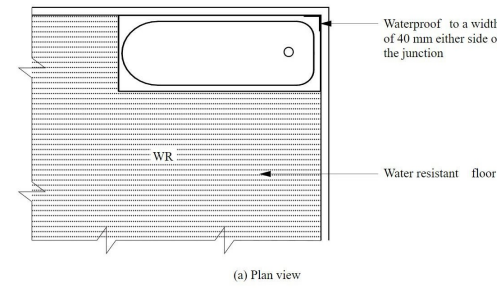

FIGURE 10.2.4B
- (1) FOR AREAS ADJACENT TO ALL BATHS AND SPAS, THE FOLLOWING APPLIES:
- (A) FOR CONCRETE, COMPRESSED FIBRE-CEMENT AND FIBRE CEMENT SHEET FLOORING, THE FLOOR OF THE ROOM MUST BE WATER RESISTANT.
- (B) FOR TIMBER FLOORS INCLUDING PARTICLEBOARD, PLYWOOD AND OTHER TIMBER BASED FLOORING MATERIALS, THE FLOOR OF THE ROOM MUST BE WATERPROOF.
- (C) TAP AND SPOUT PENETRATIONS MUST BE WATERPROOF WHERE THEY OCCUR IN HORIZONTAL SURFACES.
- (2) FOR AREAS ADJACENT TO NON-FREESTANDING BATHS AND SPAS, THE FOLLOWING APPLIES:
- (A) WALLS MUST BE WATER RESISTANT (SEE FIGURE 10.2.4A AND FIGURE 10.2.4B)
- (I) TO A HEIGHT OF NOT LESS THAN 150 mm ABOVE THE VESSEL, FOR THE EXTENT OF THE VESSEL, WHERE THE VESSEL IS WITHIN 75 mm OF A WALL; AND
- (II) FOR ALL EXPOSED SURFACES BELOW VESSEL LIP.
- (B) WALL JUNCTIONS AND JOINTS MUST BE WATER RESISTANT WITHIN 150 mm ABOVE A VESSEL FOR THE EXTENT OF THE VESSEL.
- (C) WALL/FLOOR JUNCTIONS MUST BE WATERPROOF FOR THE EXTENT OF THE VESSEL (SEE FIGURE 10.2.4A AND FIGURE 10.2.4B).
- (3) FOR INSERTED BATHS AND SPAS, THE FOLLOWING APPLIES:
- (A) FOR FLOORS AND HORIZONTAL SURFACES: (I) ANY SHELF AREA ADJOINING THE BATH OR SPA MUST BE WATERPROOF AND INCLUDE A WATERSTOP UNDER THE VESSEL LIP.
- (II) THERE ARE NO REQUIREMENTS FOR THE FLOOR UNDER A BATH OR SPA.
- (B) FOR WALLS:
- (I) WATERPROOF TO NOT LESS THAN 150 mm ABOVE THE LIP OF A BATH OR SPA.
- (C) FOR WALL JUNCTIONS AND JOINTS, THE FOLLOWING APPLIES:
- (I) WATERPROOF JUNCTIONS WITHIN 150 mm OF A BATH OR SPA.
- (II) THERE ARE NO REQUIREMENTS FOR JUNCTIONS AND JOINTS IN WALLS BENEATH THE LIP OF A BATH OR SPA.
- (D) TAP AND SPOUT PENETRATIONS MUST BE WATERPROOF WHERE THEY OCCUR IN HORIZONTAL SURFACES.